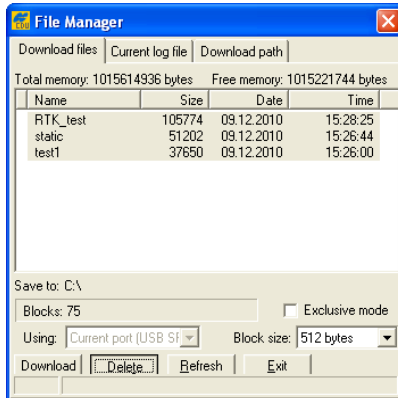

Figure 5-10. Delete Files
3. Click **File ▶ File Manager** and select the file(s) to delete on the *Download files* tab (Figure 5-10 on page 5-8).
4. Click **Delete** (Figure 5-10 on page 5-8).